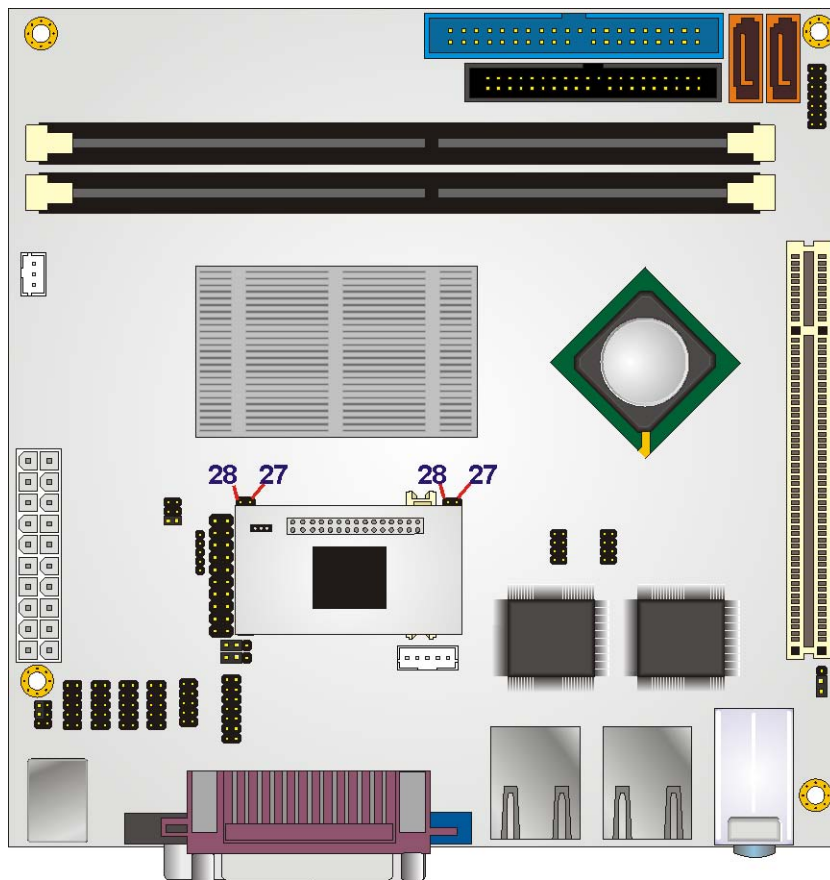

Figure 5-13: 18-bit LVDS 3907720 Connectivity
**Step 3: Install the 3907720 onto the connectors.** Pin 27 and pin 28 on both the J6 and J8 connector should be visible. See **Figure 5-13**.